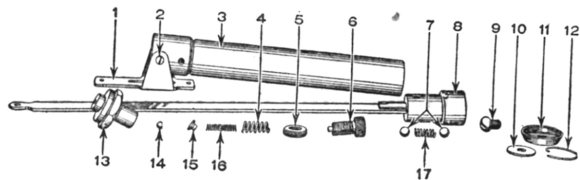

Fig. 2
- c. Remove the two springs 4 and 16, Fig. 2, the ball seat 15, and the ball 14.
- Remove the cap 13, Fig. 2, containing the lock nut 5 and the adjustment screw 6.